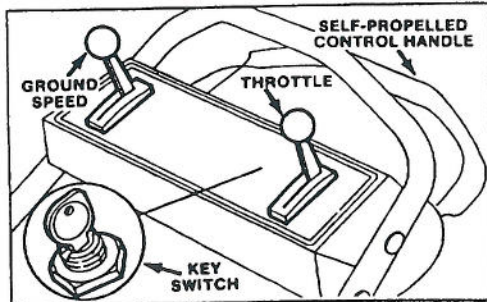

Figure 9
1. **CONTROLS** — Key switch (model 20676) throttle, ground speed control and blade/self-propelled control bar are on upper handle (Fig. 9). Fingertip starter (model 20672) is on top of engine.
2. Push high tension wire onto spark plug and move ground speed control to "N" (Fig. 9).
5. **KEY-ELECTRIC® STARTING (MODEL 20676)** — Move throttle (Fig. 9) to FAST. Turn key (Fig. 9) to START and release when engine begins running. Regulate throttle as desired. If engine does not start after 3 seconds of continuous cranking, wait 10 seconds for carburetor prime well to refill.
7. **STOPPING (Fig. 9)** — Release control bar to stop blade and traction drive. Move ground speed control to "N". To stop engine, move throttle to OFF. Pull wire off spark plug if mower is unattended or not used.